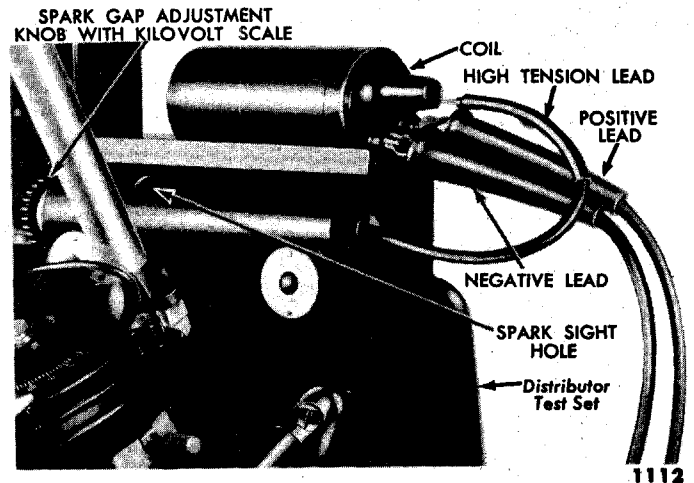

Fig. 8—Testing Coil on Distributor Stroboscope
(4) **TEST ON DISTRIBUTOR STROBOSCOPE.** Install the coil on the test set as shown in fig. 8 and check the coil output. The spark should jump a 14 kilovolt setting regularly at 2000 R.P.M.